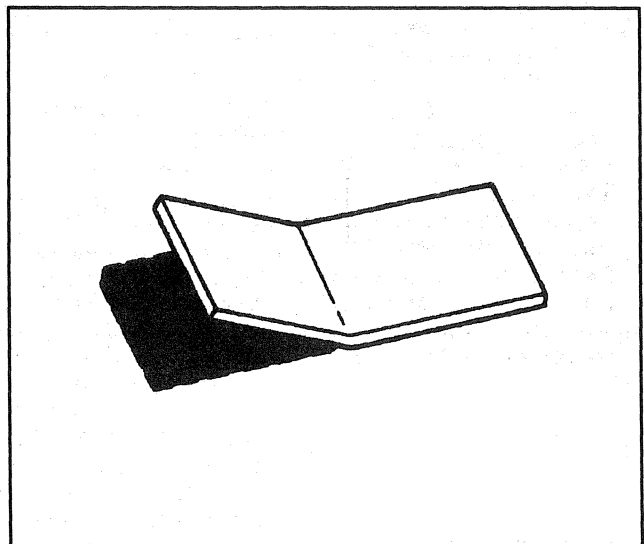

Figure 3—Sag (Damage Condition)
6. **SAG** refers to a vertical misalignment resulting in an incorrect datum line. When both sides are equally misaligned, this condition is known as kick-up (Figure 3).